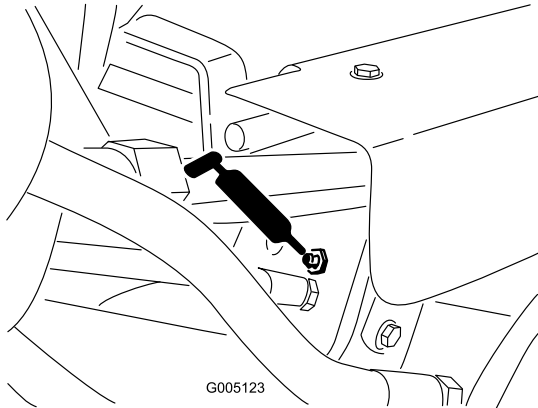

Figure 41
- Lift cylinders (3) (Figure 41)